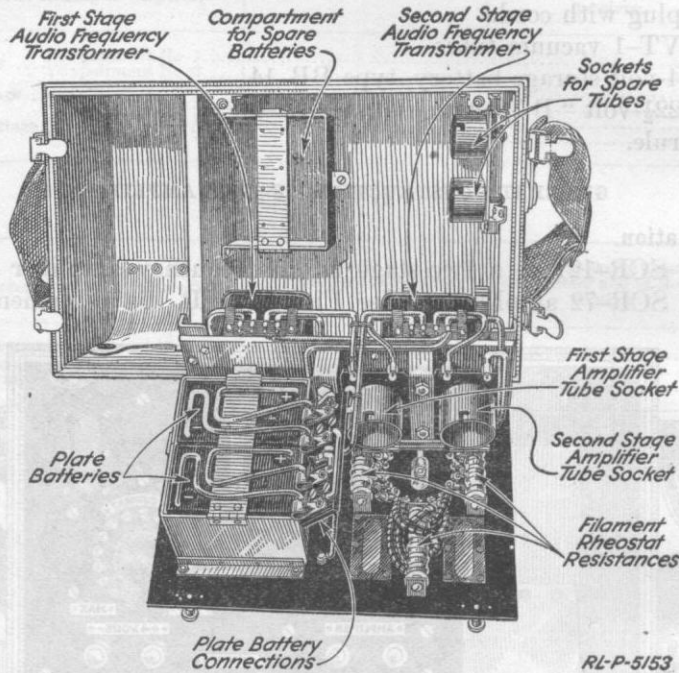

Fig. 65.—Panel of set box BC-44-A pulled forward to show interior parts.
2. Unscrew the two thumbscrews at the top of the panel and pull the panel outward. (See Fig. 65.) Note the position of the various parts inside the set. Notice how the rheostat resistances are constructed and fastened to the panel. Examine the small resistance between the tube sockets and the panel.